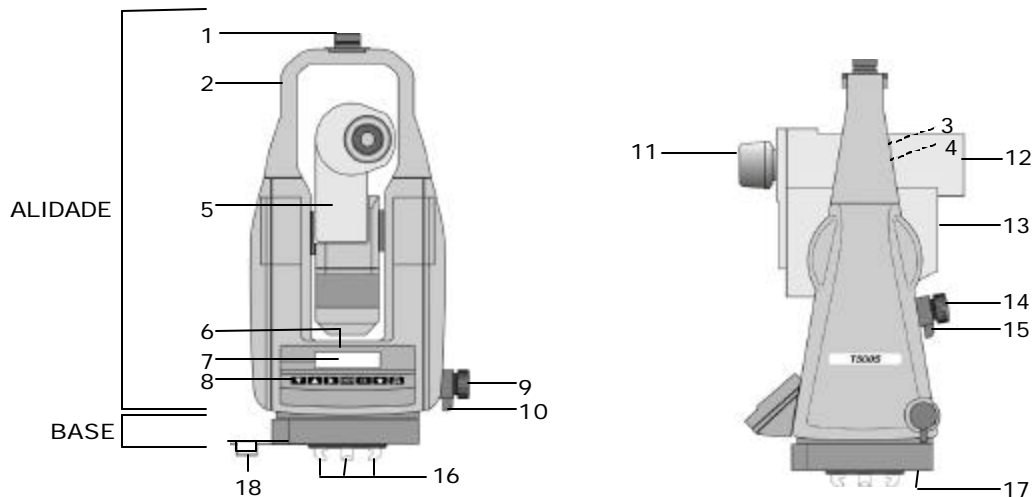

Figure 1-5 T502S Theodolite with MRF 2000 Rangefinder
- 3. MRF2000-2 Monocular Rangefinder.** The MRF2000-2 monocular rangefinder is shown in figure 1-5. The rangefinder (5) is an eyesafe laser rangefinder equipped with a ten power telescope. It is mounted centrally on the theodolite. The vertical motion fine adjustment knob, vertical motion locking lever, horizontal motion fine adjustment knob and horizontal motion locking lever are used for aiming and pointing the telescope. It consists of:
- Eyepiece (11).
- Objective for the laser receiver and sighting (12).
- Laser exit window (13).